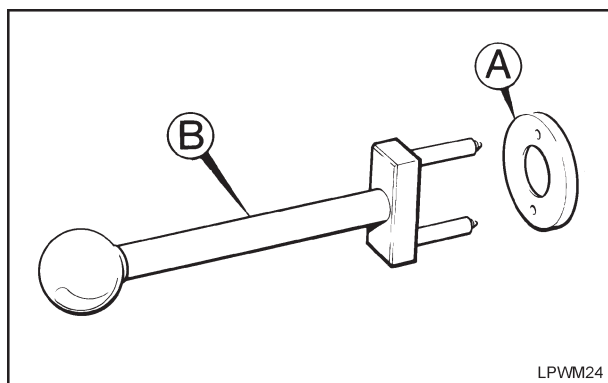

Figure 2.29.1 Valve Spring Compressor - 393155
6. Replace the valve spring (D) and spring carrier (E).
7. Fit the adaptor (A), see 'Figure 2.29.1', over the valve spring carrier with the two indentations facing outwards.
8. Push down on the tool lever until the collets (F) can be replaced in position with their tops slightly sunk in the valve spring carrier.